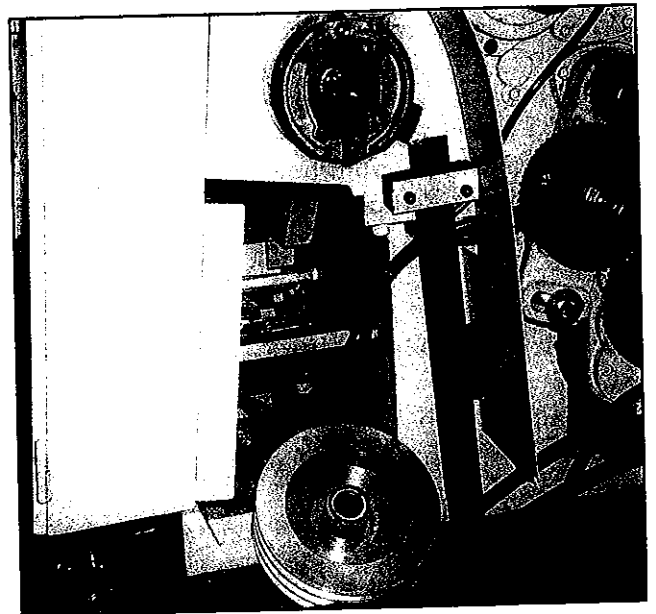

Fig.37
**SPINDLE BRAKE REPLACEMENT (Fig.37)**